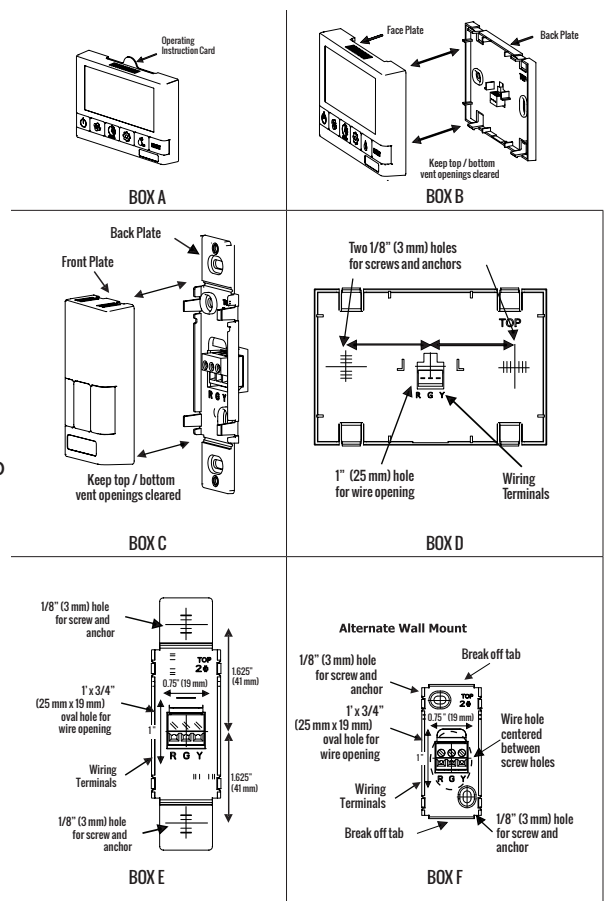

Figure 30. Installation of Controls
- For the PrecisionSYNC Control (435244), remove the operating instructions card from the top of the control (Figure 30, Box A).
- Separate the face plate from the back plate by firmly pulling apart (Figure 30, Boxes B or C). Be careful not to damage face plate contact pins.
- For the PrecisionSYNC Control, place the back plate of the control in the desired location on the wall and pencil mark the wall with the right and left screw holes (Figure 30, Box D).
- For the Two-Speed Switch with Humidity Sensor (435245), place the back plate of the control in the desired location on the wall and pencil mark the top and bottom screw holes (Figure 30, Boxes E or F). For mounting the control without a decorative plate, break off top and bottom tabs and refer to Figure 30, Box F for mounting.
- Remove the back plate from the wall and mark the center hole for the wires in the middle of the screw holes. Refer to Figure 30, Boxes D, E or F for dimensions.
- Drill (two) 1/8" (3 mm) holes for the screws and wall anchors (Figure 30, Boxes D, E or F). For the PrecisionSYNC Control, drill a one inch hole in the center (Figure 30, Box D). For the Two-Speed Switch with Humidity Sensor (435245), cut in a 3/4" (19 mm) by 1" (25 mm) oval hole in the center (Figure 30, Boxes E or F).
- Connect red, green, and yellow to the wiring terminals located on the back plate (Figure 30, Boxes D, E or F).
- Attach the face plate to the back plate (Figure 30, Boxes B or C).
- For the PrecisionSYNC Control (435244), insert the instructions card into the control (Figure 30, Box A).
2. Pairing SYNC Control (435244): Press the left and right buttons simultaneously on the control  and RESET buttons. The screen will go blank and the wireless symbol  appear flashing on the bottom right of the display. This indicates that the control is now in pairing mode (Figure 30, Box D).
3. Pairing 20/40/60 Minute Wireless Timer (435248) with Two-Speed Switch with Humidity Sensor (435245): Press the left and right buttons simultaneously on the control  and  buttons). The bottom row of three LEDs will begin flashing. This indicates that the main control is now in pairing mode (Figure 30, Box E).
1. Separate the face plate from the back plate by firmly pulling apart (Figure 30, Box A).
2. For mounting the control without a decorative plate, break off top and bottom tabs and refer to Figure 30, Box C for mounting.
3. Place the back plate of the control in the desired location on the wall and pencil mark the top and bottom screw holes (Figure 30, Boxes B or C). Drill two 1/8" (3 mm) holes.
5. Attach the face plate to the back plate (Figure 30, Box F).